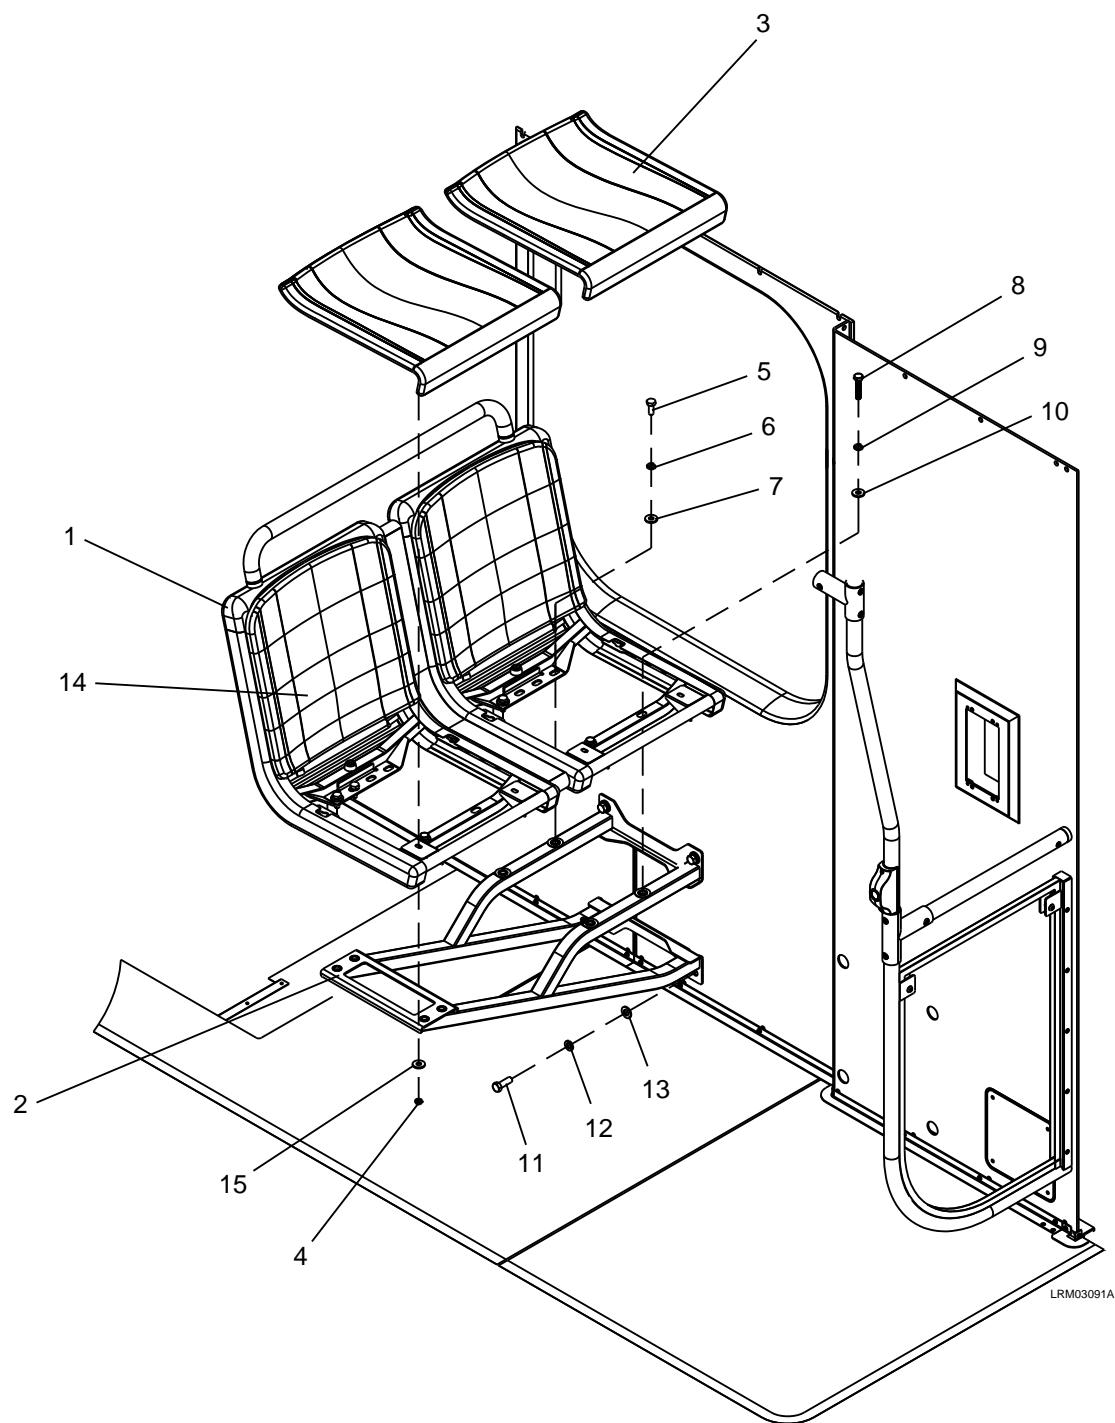

Figure 7-96: 2P LH & RH Cantilever, Reserved
3. Lift the front of the bottom seat cushion (3) and pull the cushion forward to release the rear clips.
4. Remove the seatback cushions (14) by pulling down on the cushions to release the seatback cushions from the slots in the seat frame assembly (1). See Figure 7-96.